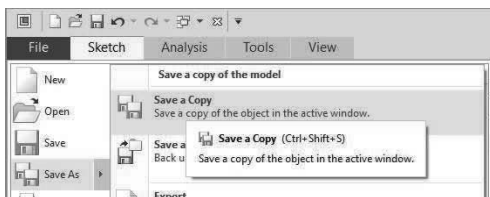

Figure 3-58 Save a Copy
**Step 22:** With sketch “exercise1a” visible on the screen, *select* **File>Save As>Save a Copy**. See Figure 3-58.